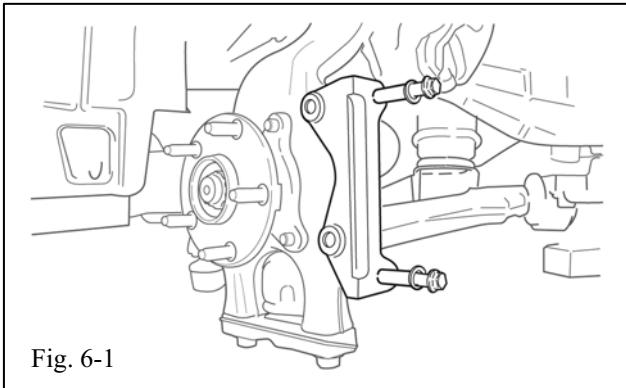

Fig. 6-1
- (a) Install the caliper bracket to the steering knuckle using the original caliper mounting bolts removed earlier (Fig 6-1). **Torque: 58 lbf-ft (78 N·m)**